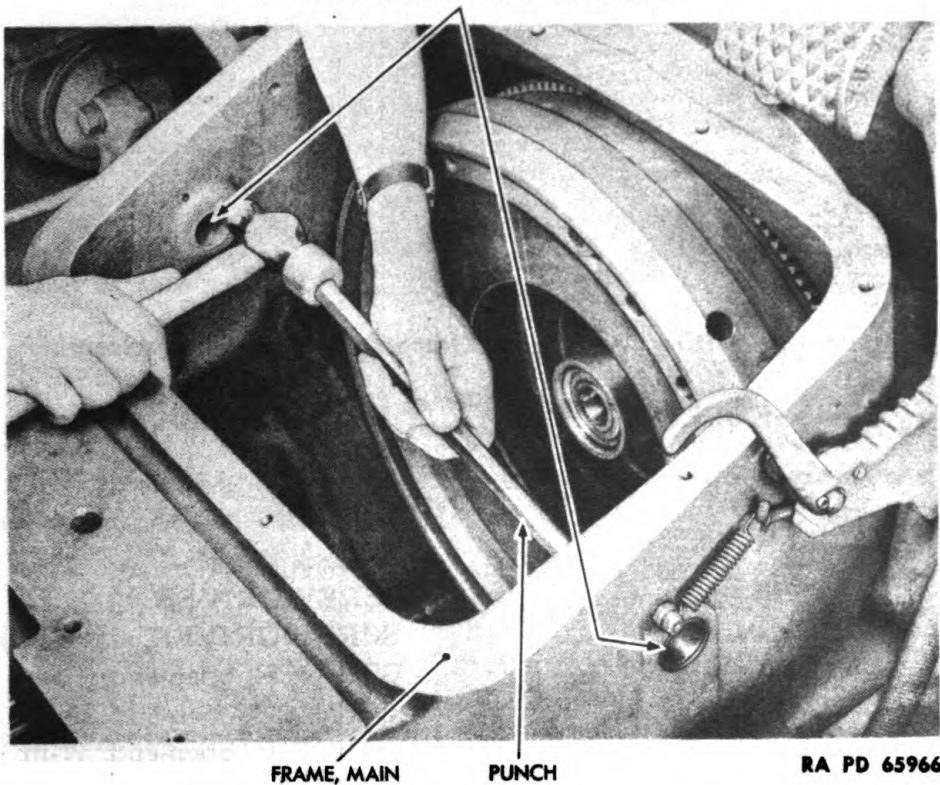

Figure 17 — Engine Clutch Fork Shaft Bushing Removal
(15) REMOVE ENGINE CLUTCH FORK SHAFT BUSHINGS (fig. 17).